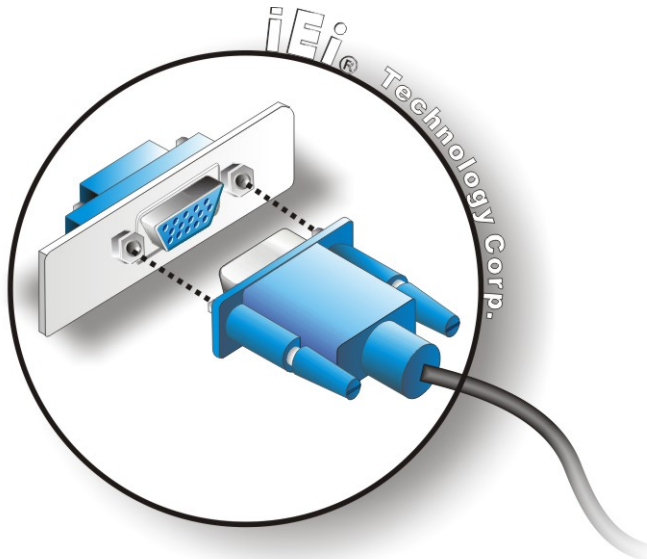

Figure 3-33: VGA Connector
Step 3: Insert the VGA connector Once the connectors are properly aligned with the insert the male connector from the VGA screen into the female connector on the UPC-V312-D525. See **Figure 3-33**.